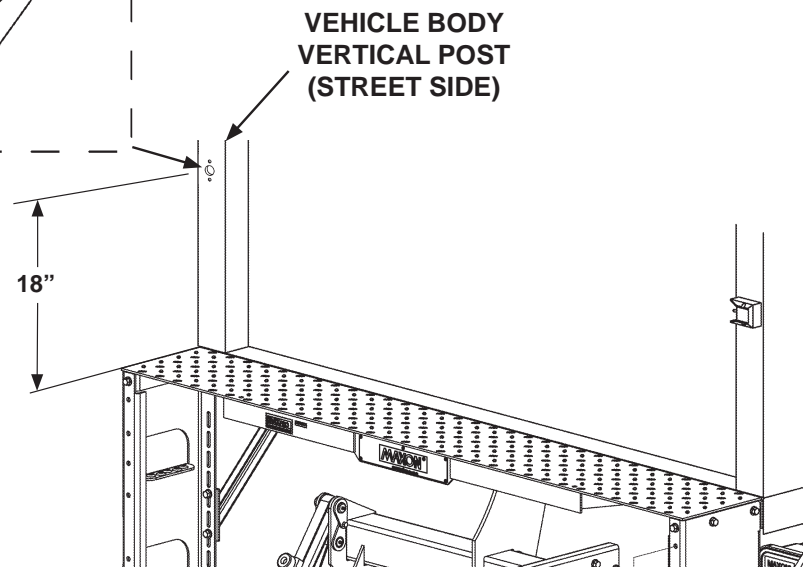

**FIG. 3-1**
2. Remove nut from negative (-) battery terminal to disconnect negative (-) battery cable (**FIG. 3-1**). Re-install nut on negative (-) battery terminal.